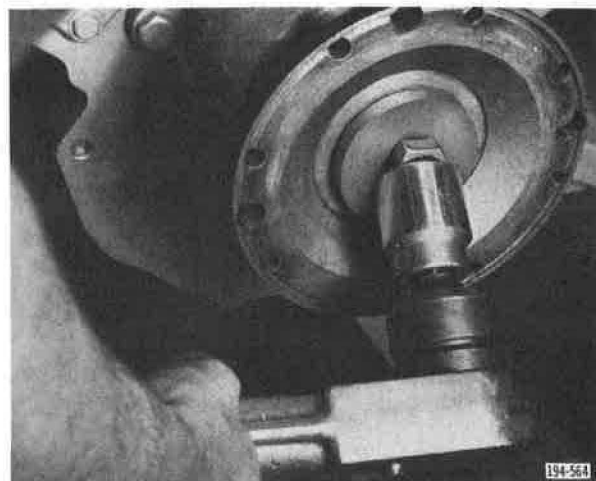

Figure 5-246. Removing Capscrew
25. Remove drive flange (or yoke) clamp plate cap screw and clamp plate. See Figure 5-246.